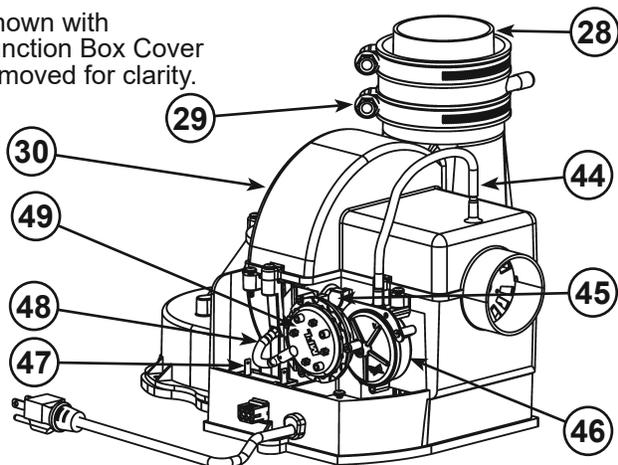

Figure 5.
| 8 T&P Valve   | 25 Baffle Assembly   | 44 Air Tubing (Intake) (see Figure 5)                           |
| 9 * Discharge Pipe  | 26 Hot-Water Outlet Nipple/Anode   | 45 Blower High Limit Switch (see Figure 5)                      |
| 10 **Combo Heating System Return Inlet (Optional)                       | 27 *Inlet Water Shut-off Valve   | 46 Intake Air Pressure Switch (NC) (inside box) (see Figure 5)  |
| 11 Gas Control Valve/Thermostat (Resideo)                               | 28 ****Rubber Coupling (see Figure 5)  | 47 Capacitor (see Figure 5)                                     |
| 12 Gas Valve Electronic Control Module And Cover (Resideo)              | 29 Gear Clamp (see Figure 5)   | 48 Air Tubing (Exhaust) (see Figure 5)                          |
| 13 Drain Valve  | 30 ***Blower with Power Cord (see Figure 5)  | 49 Exhaust Air Pressure Switch (NO) (inside box) (see Figure 5) |
This device is located on the blower (see Figure 5, item 45) and limits the maximum temperature of the blower. If the blower temperature rises above the temperature setting, the switch opens causing the heater to shut down.
The blower/heater is equipped with two air pressure switches located in the junction box (see Figure 5, item 46 and item 49). These devices are connected in series and monitor the air pressure produced by the blower. In the event that the exhaust venting becomes blocked or sufficiently restricted, the normally open (NO) air pressure switch will shut down the heater. In the event that the intake pipe becomes sufficiently blocked or restricted, the normally closed (NC) air pressure switch will shut down the heater.